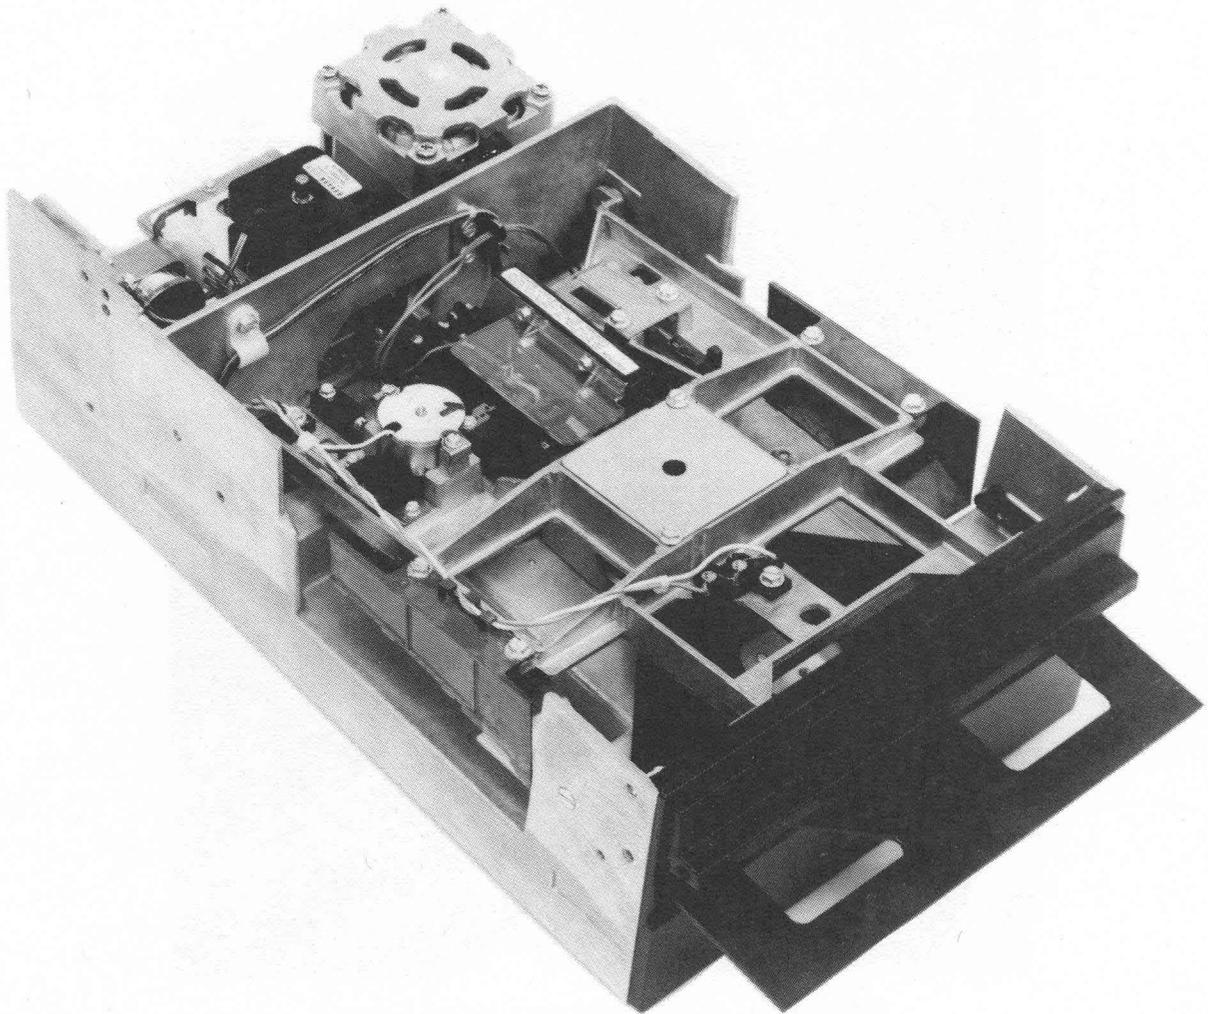

FIGURE 40. PENETRATION PLATE INSTALLATION
- c. With the drive in the horizontal position, remove HAC shield and door open, slide the penetration plate into the drive with the tapered end in first and counter bore side up. Slide the plate up and over the spindle until it's squarely over the spindle and close the door. See Figure 40.